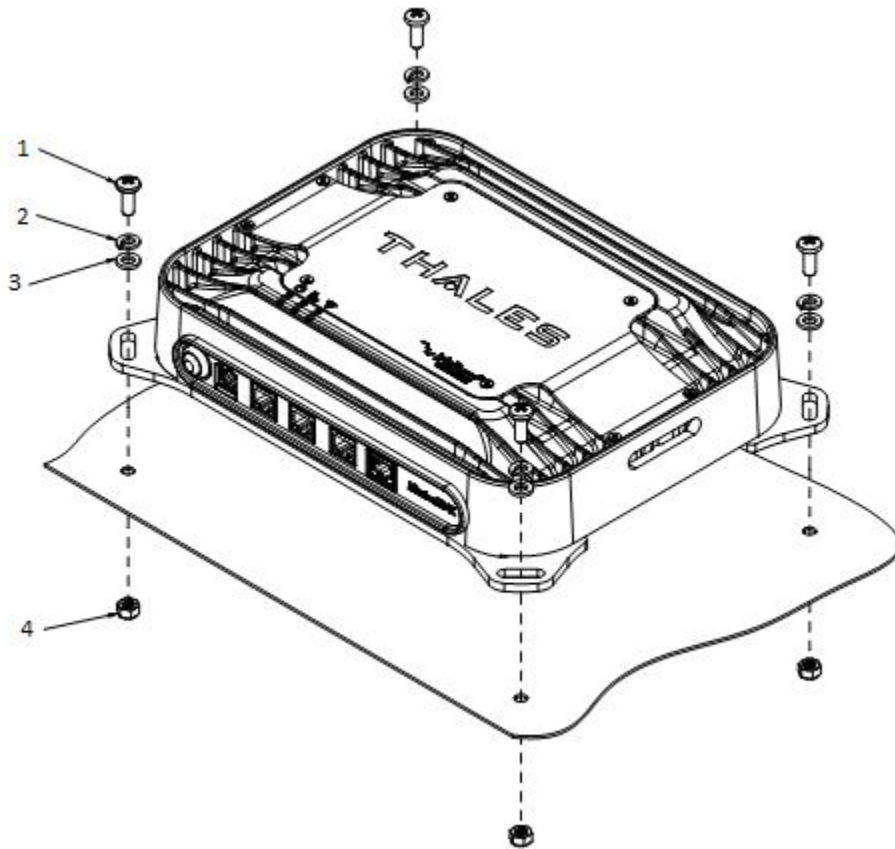

Figure 2-6 Below Deck Unit (BDU) Mounting Detail
3. Assemble screws with split lock and flat washers as shown in Figure 2-6 and torque to 4.5 Ft. Lbs. (6 Nm).